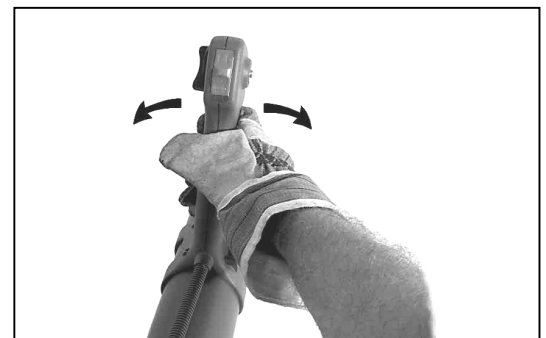

fig.8
- rotation of blower tube and handle (fig.8)